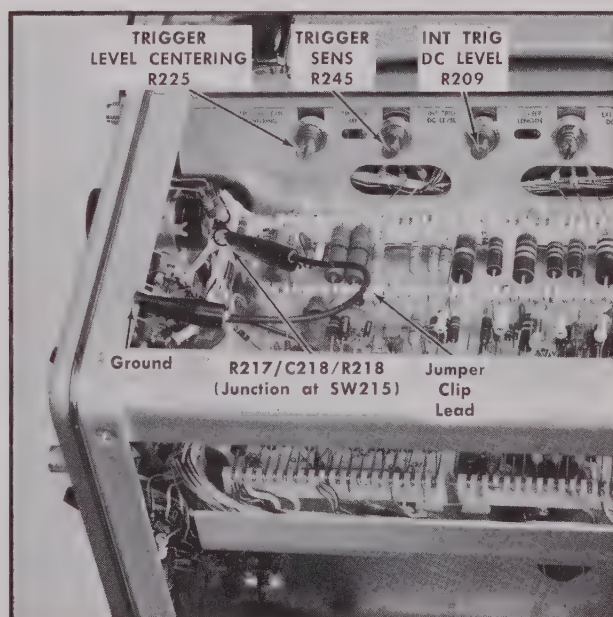

Fig. 5-5. Trigger clip-lead connections, adjustment and test point locations.
- f. Locate the junction of R217, C218, and R218 (see Fig. 5-5). Connect a short jumper clip lead (item 11) between the junction and ground. This jumper disables the TRIGGERING LEVEL control.
- g. Rotate the TRIGGER LEVEL CENTERING R225 and TRIG SENS R245 controls (see Fig. 5-5) fully clockwise.
- f. Adjust the INT TRIG DC LEVEL R209 control (see Fig. 5-5) to obtain a stable display. (With the SLOPE switch set to +, the sweep trace should start on the positive-going rise of the calibrator waveform.)